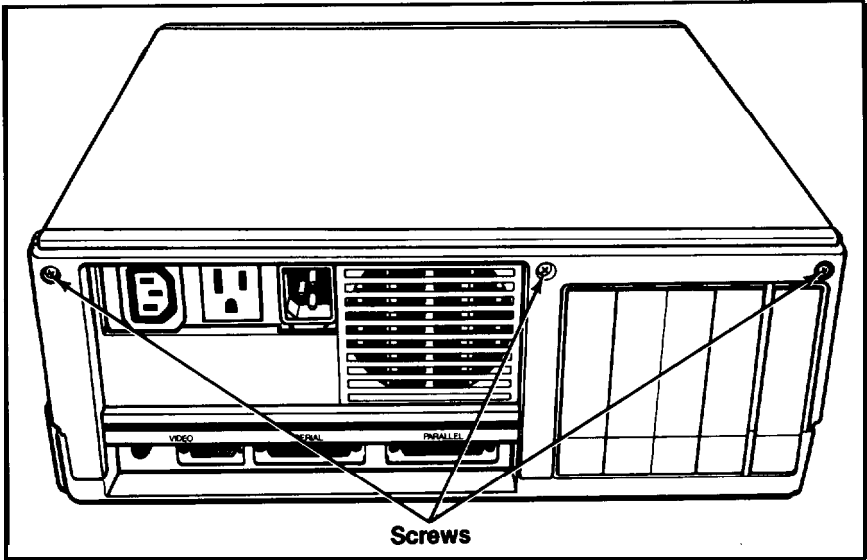

Figure 4-1. Back panel screws
2. As shown in Figure 4-1, the back panel is secured with three screws. Remove the screws with a Phillips screwdriver and put them safely to one side. Then remove the back panel from the main unit and set it aside.